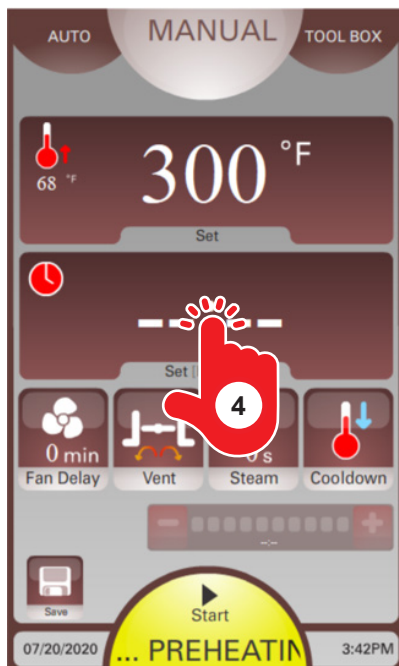

Fig. 31
4. Touch the Timer Setting Display (Fig. 31) to set the desired bake/cook time. A keypad should be displayed.